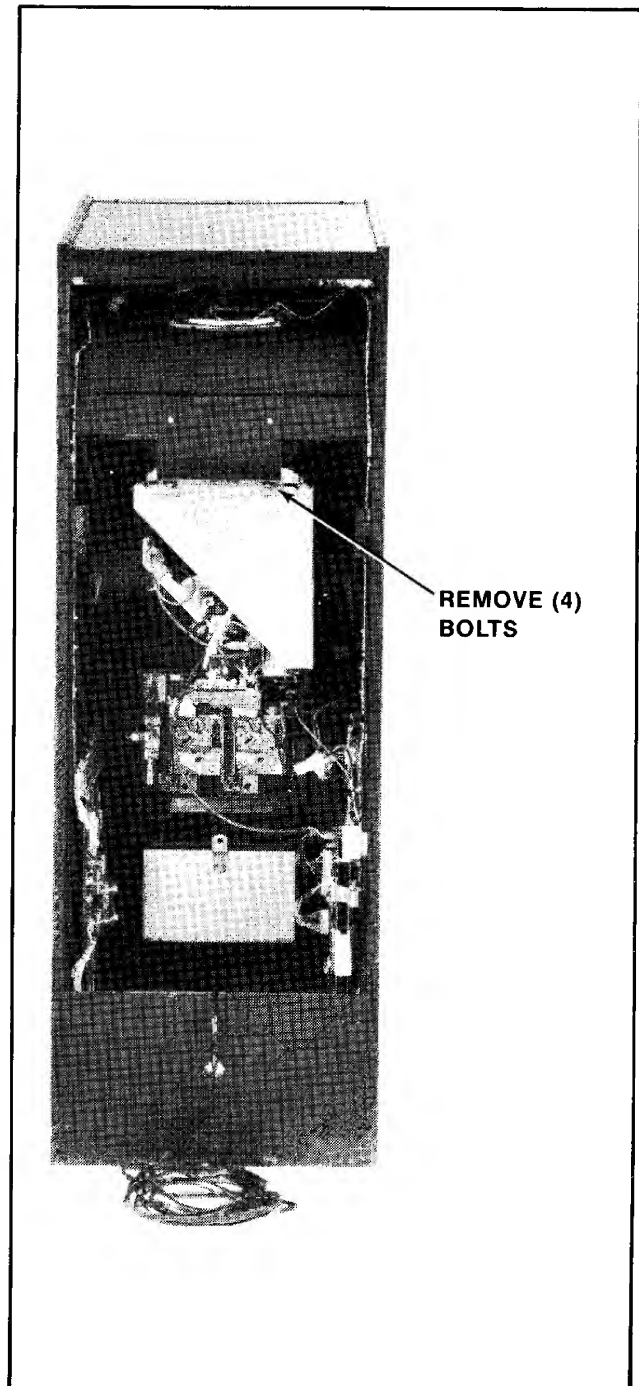

Figure 4-9 Removing Monitor — Mini
2. MINI MODEL: See Figure 4-9.